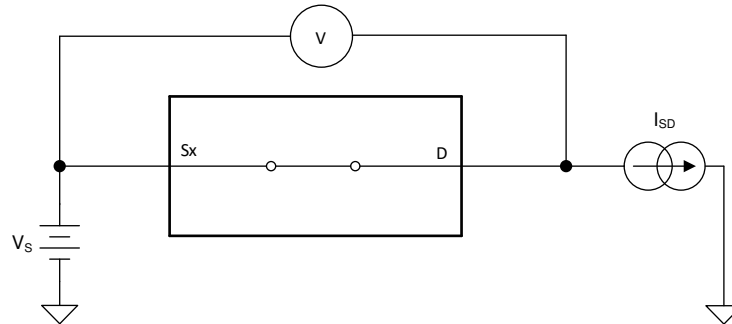

图 8-1. On-Resistance Measurement Setup
The on-resistance of a device is the ohmic resistance between the source (Sx) and drain (D) pins of the device. The on-resistance varies with input voltage and supply voltage. The symbol R_{ON} is used to denote on-resistance. The measurement setup used to measure R_{ON} is shown below. Voltage (V) and current (I_{SD}) are measured using this setup, and R_{ON} is computed as shown in Figure 8-1 with $R_{ON} = V / I_{SD}$: